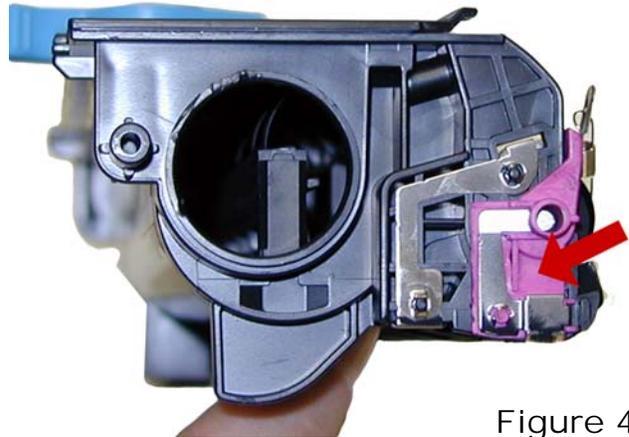

Figure 4
5) Remove the pink bushing from the right side. See **Figure 4**